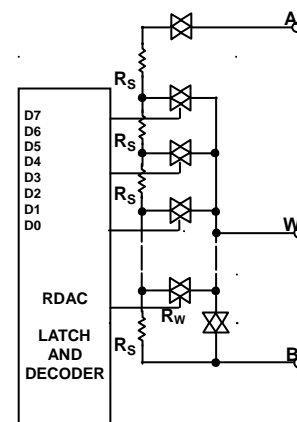

Figure 6. AD5290 Equivalent RDAC Circuit
The nominal resistance (R_{AB}) of the RDAC has 256 contact points accessed by the wiper terminal, plus the B terminal contact if R_{WB} is considered. The 8-bit data in the RDAC latch is decoded to select one of the 256 settings. Assuming that a 10 k Ω part is used, the wiper's first connection starts at the B terminal for data 0x00. Such connection yields a minimum of 60 Ω resistance between terminals W and B because of the 60 Ω wiper contact resistance. The second connection is the first tap point, which corresponds to 99 Ω ($R_{WB} = (1) \times R_{AB}/256 + R_W$) for data 0x01, and so on. Each LSB data value increase moves the wiper up the resistor ladder until the last tap point is reached at 10020 Ω ($(255) \times R_{AB}/256 + R_W$). Figure 6 shows a simplified diagram of the equivalent RDAC circuit. The general equation determining R_{WB} is